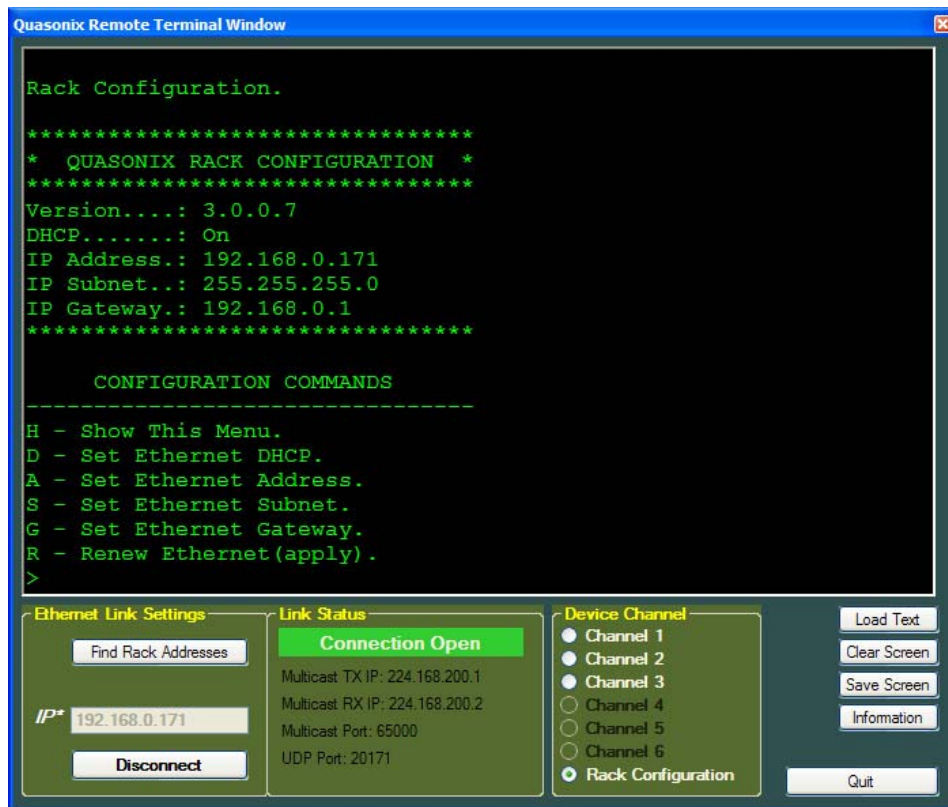

Figure 19: Quasonix Remote Terminal Window, Rack Configuration
- Rack Configuration – Displays network information associated with this unit including single board computer version number (for Quasonix reference), DHCP status, IP Address, IP Subnet, and IP Gateway. An example is shown in Figure 19. The display also provides a list of configuration commands, as described in Table 5.
When Rack Configuration is selected, a list of the current Ethernet configuration parameters and a list of configuration commands display in the Remote Terminal Window, as shown in Figure 19.